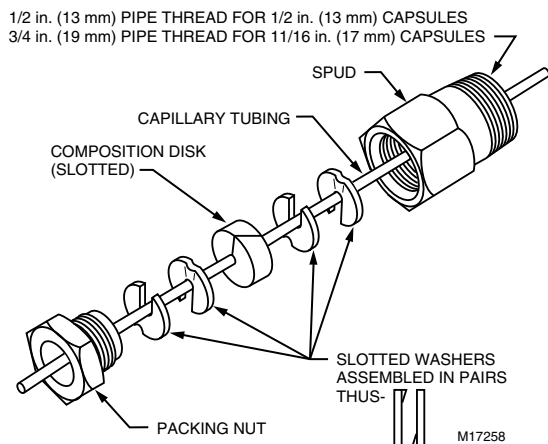

Fig. 8. Capillary compression fitting assembly.
5. Place the composition disk and the four slotted brass washers on the tubing in the order shown in Fig. 8.